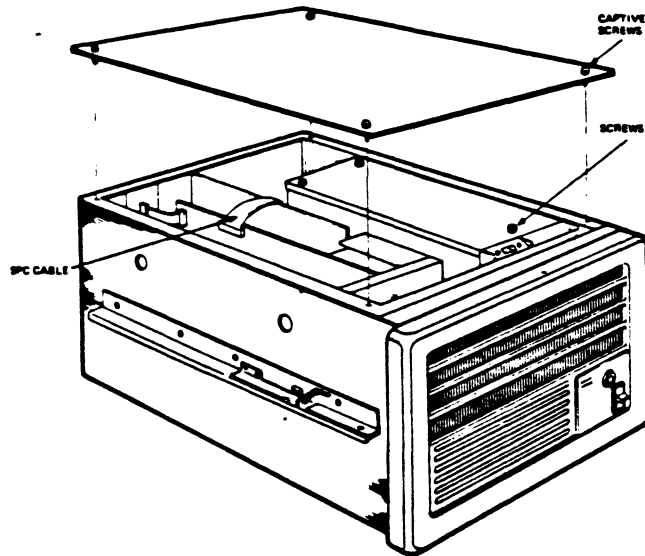

FIGURE 5-17 POWER SUPPLY REMOVAL
4. Loosen the two phillips head screws on the power supply cover. Slide the cover backwards and lift to remove it. See Figure 5-17.